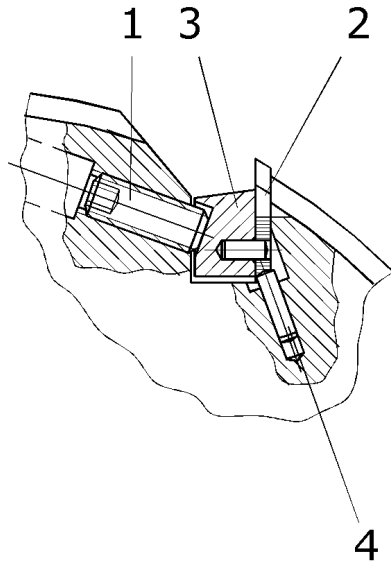

Fig.1
(See Fig. 1, 2, and 3)
2. Loosen the set screw (1) with the Allen key only so far until the gib (3) with the profile knife (2) can be completely removed from the knife seat.
5. Place profile knife, together with the corresponding gib, properly into the knife seat (see Fig. 1 and 2). Be sure that the positioning edge of the knife locates firmly on the base of the tool seat.